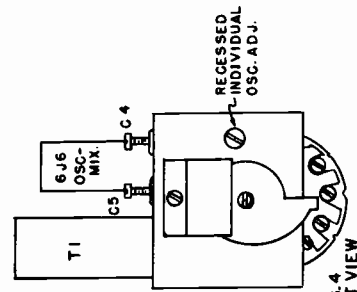

FIG. 4 FRONT VIEW
- c) Place a non-metallic screwdriver through the opening marked 'Recessed Individual Osc. Adjustment', fig. 4, and adjust oscillator coil zero-beat with 24.75 mc marker on response curve.